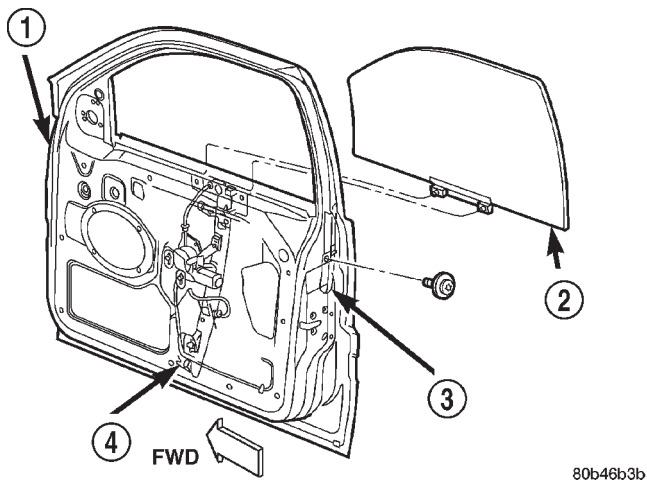

Fig. 6 Front Door Glass Run Channel
(1) Remove the waterdam, refer to (Refer to 23 - BODY/DOOR - FRONT/WATERDAM - REMOVAL).
(2) Remove inner belt weatherstrip, refer to (Refer to 23 - BODY/WEATHERSTRIP/SEALS/FDR INNER BELT WEATHERSTRIP - REMOVAL).
(3) Remove outer belt weatherstrip, refer to (Refer to 23 - BODY/WEATHERSTRIP/SEALS/FDR OUTER BELT WEATHERSTRIP - REMOVAL).
(4) Remove bolt attaching run channel to inner door panel (Fig. 6).
(5) Peel back glass run channel weatherstrip on rear run channel.
(6) Pull glass run channel downward to separate from door.
- (1) Position glass run channel in door (Fig. 6).
- (2) Align glass run channel with door frame run channel and slide channel upward to secure door.
- (3) Press glass run channel weatherstrip into rear run channel.
- (4) Install bolt attaching run channel to inner door panel.
- (5) Install outer belt weatherstrip, (Refer to 23 - BODY/WEATHERSTRIP/SEALS/FDR OUTER BELT WEATHERSTRIP - INSTALLATION).
- (6) Install inner belt weatherstrip, (Refer to 23 - BODY/WEATHERSTRIP/SEALS/FDR INNER BELT WEATHERSTRIP - INSTALLATION).
- (7) Install the waterdam, (Refer to 23 - BODY/DOOR - FRONT/WATERDAM - INSTALLATION).